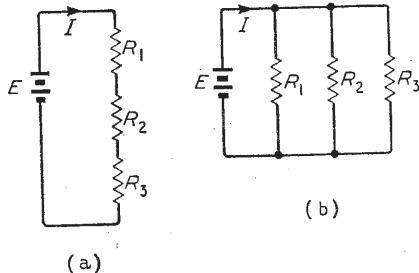

Fig. 1. Although "Ohm's law" is easy to apply to (a) it is slightly less convenient for (b), and its dual is to be preferred.
Above:—Fig. 1. Vectorial representation of the complete SEQUIN signal (for the chrominance system). Correct phase detection, $(R - Y) \pm Y = R$, etc.; incorrect phase detection, $[R - Y \pm \Delta(K_1 - Y')] \pm Y = R \pm \Delta(K_1 - Y')$ etc.
which is also true and sometimes more useful, especially with parallel circuits. Equation (1) is quite suitable for attacking Fig. 1(a), because the total *R* is just the sum of all the resistances, so the particularized version of (1) is
But the first time we are confronted with Fig. 1(b) we have to think a bit and finally come up with
As well as dual quantities and dual equations there are such things as dual circuits. You might think that Fig. 1(b) was the dual of (a) because its equation is. But we can see that this is not exactly so if we describe (a) in words and then transform it by using the parallel lists: thus, (a) comprises three resistors all in series with a voltage source. So its dual must be three conductors all in parallel with a current source.
tages—either of the two opposite varieties just mentioned—presumably think it is a good idea, because it indicates both the voltage and its direction (unlike the absurd arrows pointing *both* ways that are still often used) so why not for currents too? Up to that point the line of thought is impeccable, but unfortunately it almost invariably goes astray from there on. The thinker says to himself that if V_{ab} means the voltage between a and b then I_{ab} should mean the current flowing from a to b . He would get away with this in circuits like Fig. 1(a), where the junctions between the resistors might be marked a, b, c , etc. But what about Fig. 1(b)? There are four currents flowing between the only two circuit junctions and they are probably all different. That will never do, so he finishes up by distinguishing them as I_{R1}, I_{R2} , etc., sacrificing the indication of direction in the process. All very arbitrary and unsatisfactory.
If only he had remembered the table of duals he would have realized that current is the dual of voltage, so if the voltage subscripts refer to circuit junctions the current subscripts should refer to circuit meshes. This is perfectly specific and unambiguous; the current flowing through, say R_1 in Fig. 1(b), is not specified by the points between which it flows, for three other currents do the same, but it is uniquely specified by the meshes on each side of R_1 . This is not even a revolutionary new idea; it was used for stresses in structures by Bow nearly 100 years ago.